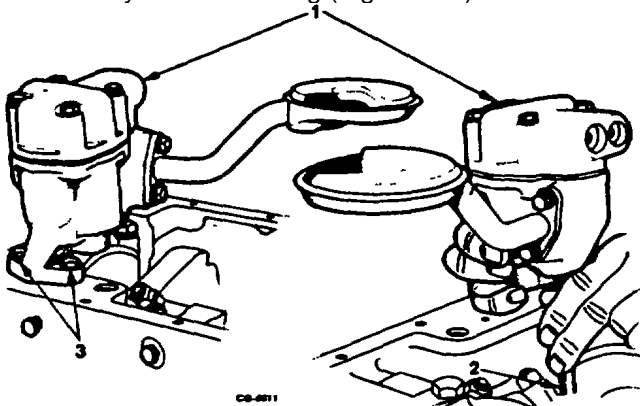

Figure 136. Installing Oil Pump
17. Position oil pump in cylinder block and check for correct alignment. Pump shaft should rotate freely without binding (Figure 136).